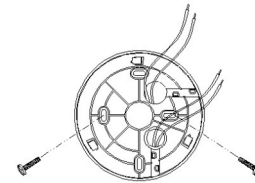

**Fig. 4.**
2. Use a screwdriver to punch out the appropriate opening. See Fig. 4.